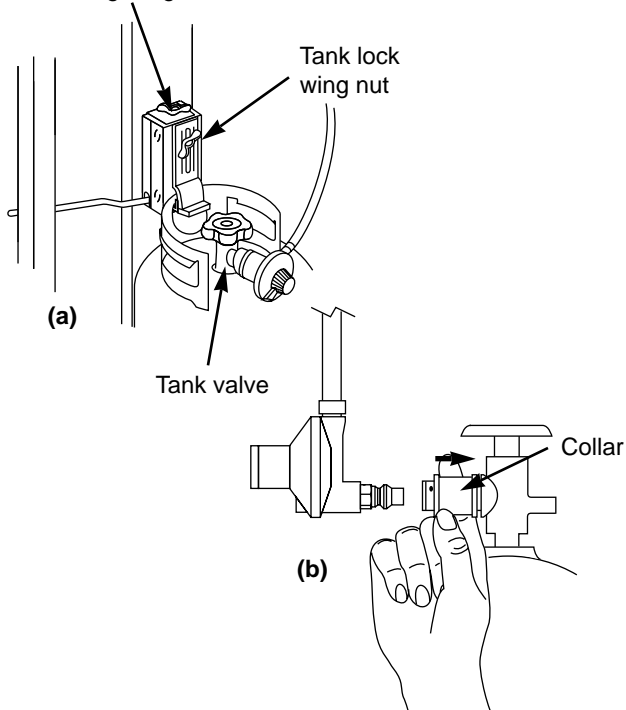

Figure 4
- 1) Close tank valve (turn clockwise). Figure 4 (a).
- 2) Slide the collar back on the quick disconnect to disengage the fitting. Figure 4 (b).